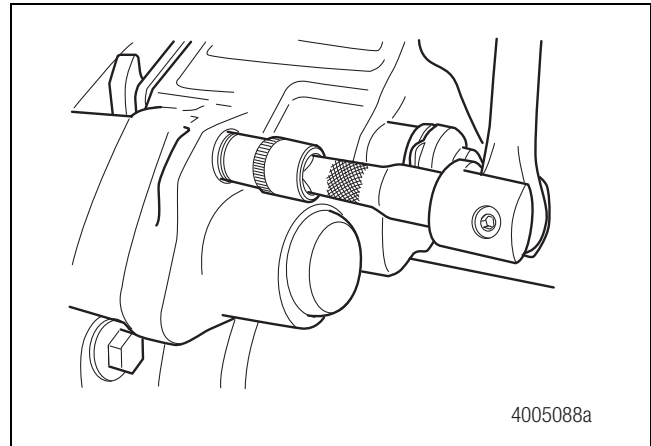

Figure 5.20
2. Use the correct size socket to remove the four bridge bolts. Figure 5.20. Discard the bridge bolts after they have been removed. They are no longer usable.